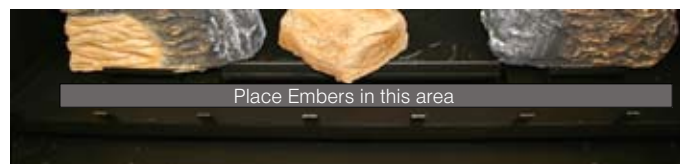

Figure 30g. Placing Embers.
Step 9. Place the Embers as shown in figure 30g.